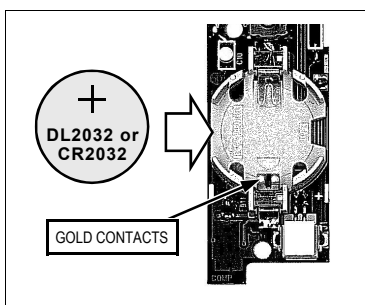

Fig. 3. Install battery under gold contacts
2. **Insert the battery.** Observe battery polarity. Insert battery under the two gold contacts with the positive (+) terminal towards you (facing up). See Fig. 3. Do not insert backwards.